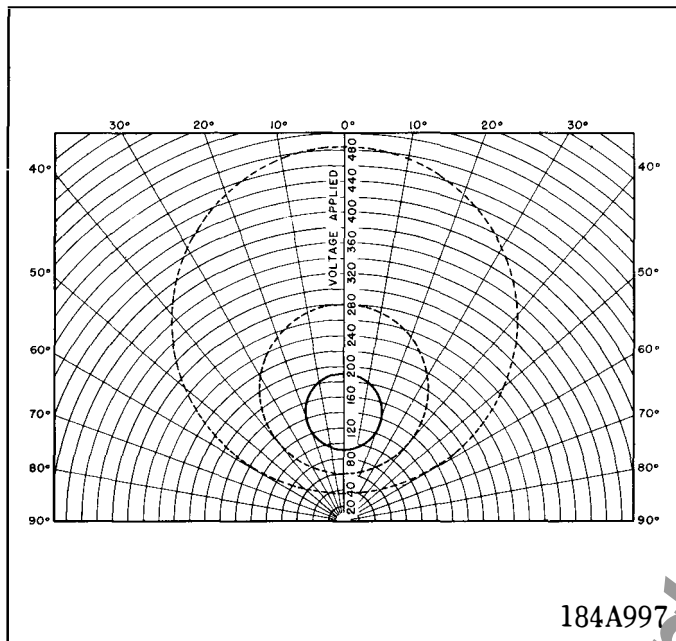
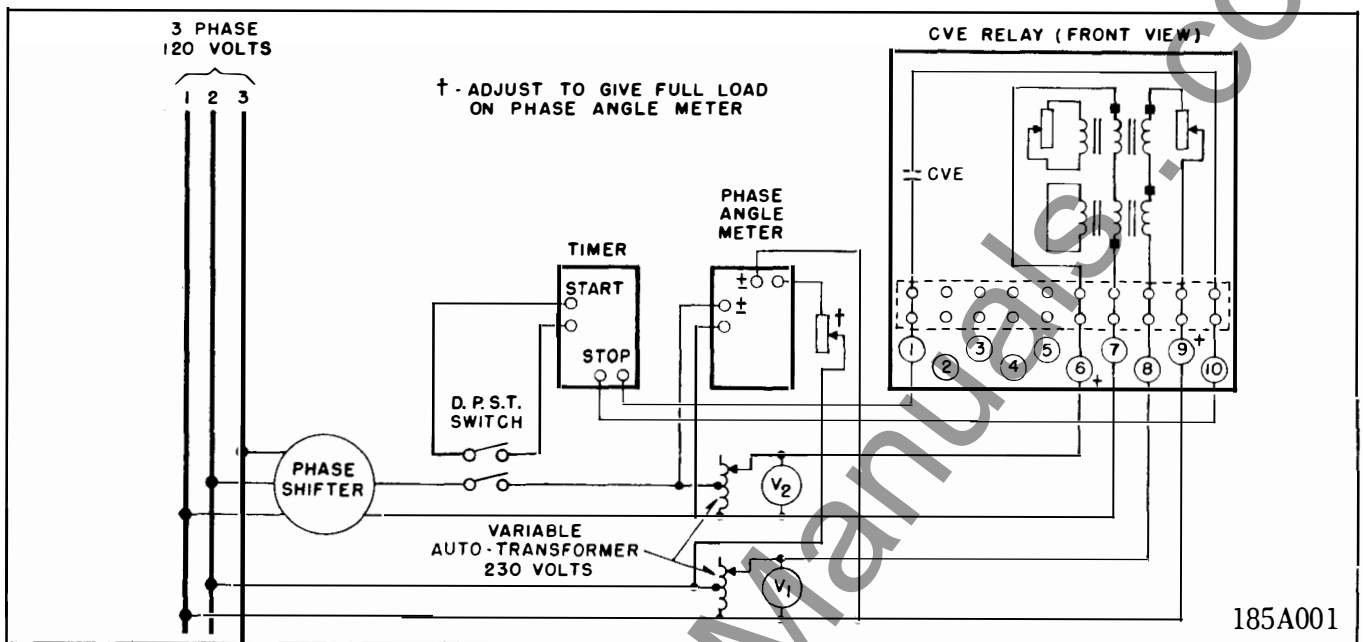

Fig. 6. Typical Voltage - Angle Characteristic of CVE for Various Closing Angle Settings. Rated Voltage on One Circuit.
Fig. 10. Diagram of CVE Test Connections.
The type CVE relay can be adjusted for operating circles from 20 to 60 degrees as shown in Fig. 6. As shipped from the factory the relay is calibrated for the 20 degree circle. These circles apply when one side has rated voltage. The relay operates, if the other voltage falls within the appropriate circle.
2. Operating Circle - Connect the relay per the test diagram of Fig. 10. The contacts should just close when V_B is within ± 4 volts of the values shown in Fig. 6 for different angles on the 20 degree circle when V_1 is equal to rated voltage.
3. Spurious Torque Adjustments — With the relay set as per the preliminary adjustments, open the lag coil circuit of the rear electromagnet. Connect the relay to test circuit of Fig. 10 and apply rated voltage at zero phase angle on both circuits. Adjust the left hand plug of the rear electromagnet such that the disc does not move from the number 11 time dial position. This can be determined by no movement of the disc when the time dial is moved beyond the number 11 position.
With V_1 in Fig. 10 equal to rated voltage the following approximate voltages should be obtained across the coils of the 120 volt relay. Relay set for 20 degree circle.